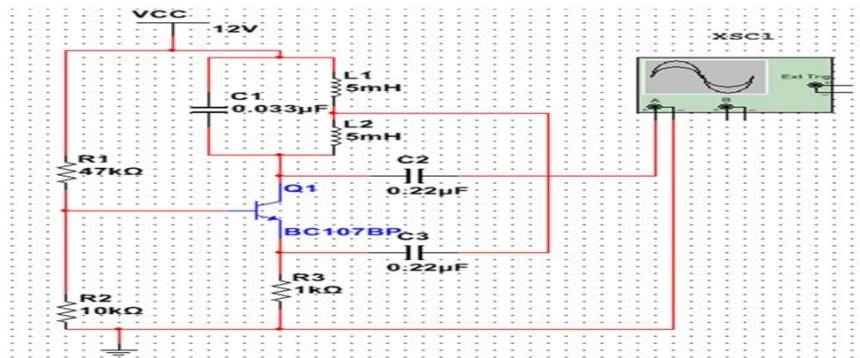

Figure 11.1: Hartley oscillator
11.1 Design a Hartley oscillator as shown in the Figure 11.1 and determine the frequency of oscillation using MULTISIM